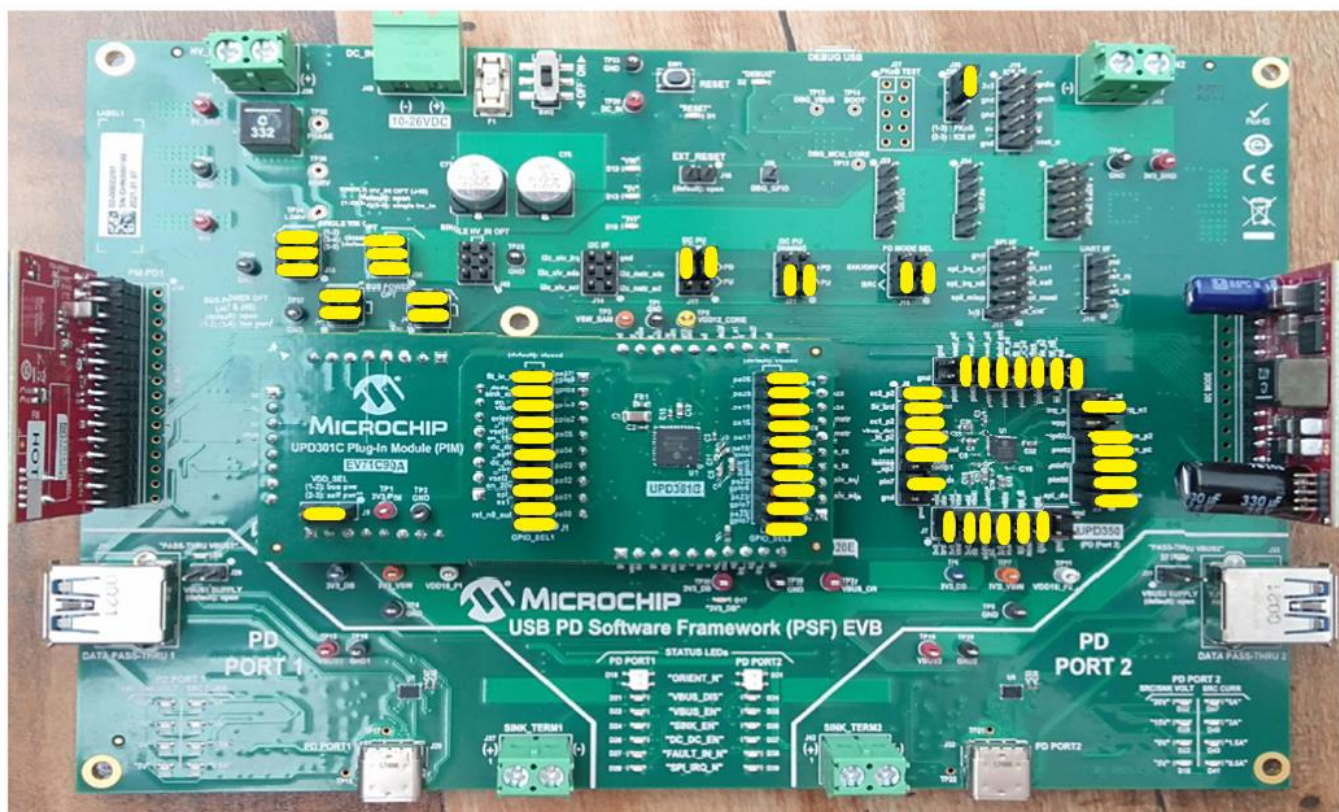

Figure 5.3 EVB-PSF with jumper connections highlighted
3. Ensure the following jumpers are connected in EVB-PSF before proceeding to next step. An image of EVB-PSF with all the required jumper connections highlighted is shown in Figure 5.3.